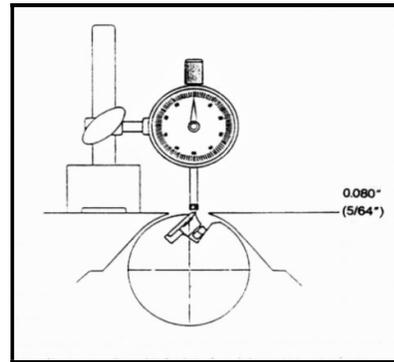

Fig. 8
3. Place setting gauge on table with $5/64$ " or $.080$ " gap between cutterhead. Use feeler gage or dial indicator for accurate setting. Fig. 8